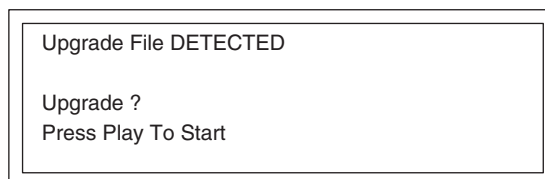

Fig. 9
6. "Upgrade?" is displayed on the TV screen. (Fig. 9)